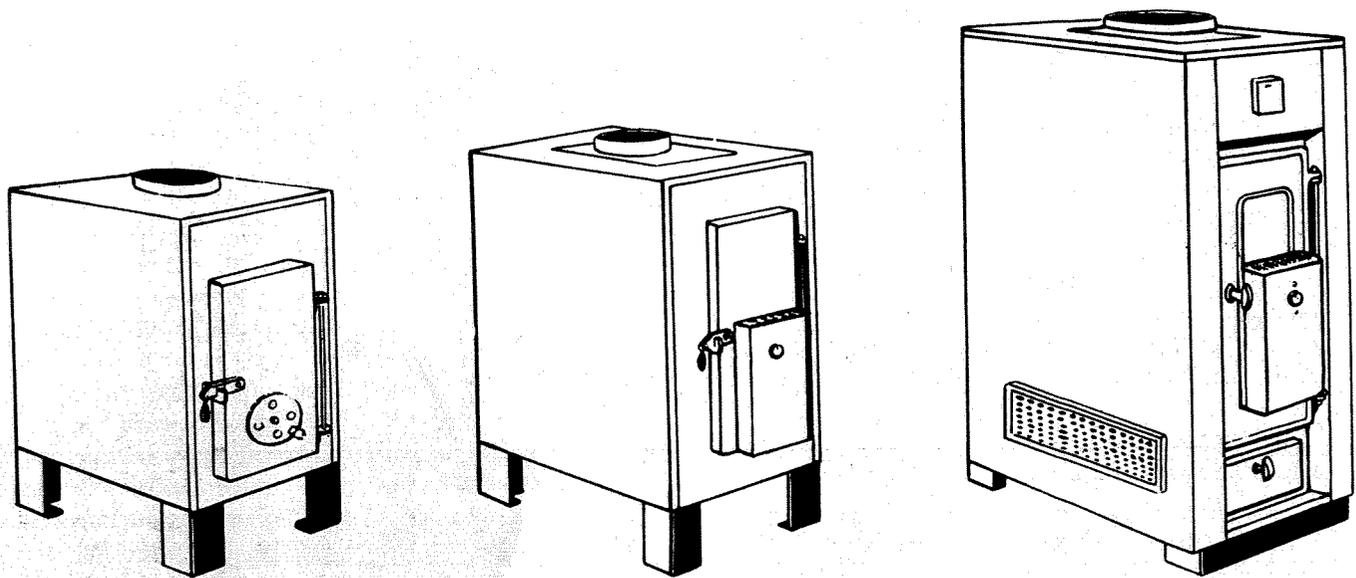

Fig. 85. Add-A-Furnace wood-burning furnaces, Model AF124 (left), Model AF224 (center), and Model AF324 (right).
20. **Monarch Division, Malleable Iron Range Co.** (manufacturer), 715 N. Spring St., Beaver Dam, WI 53916. Add-A-Furnace wood-burning furnaces (Fig. 85 and Table 10) are airtight with double-wall construction for heat exchange. Models AF224 and AF324 have thermostatically controlled primary- and secondary-air damper. All have cast-iron grates; Model AF324, a cast-iron door mounted on cast-iron frame.